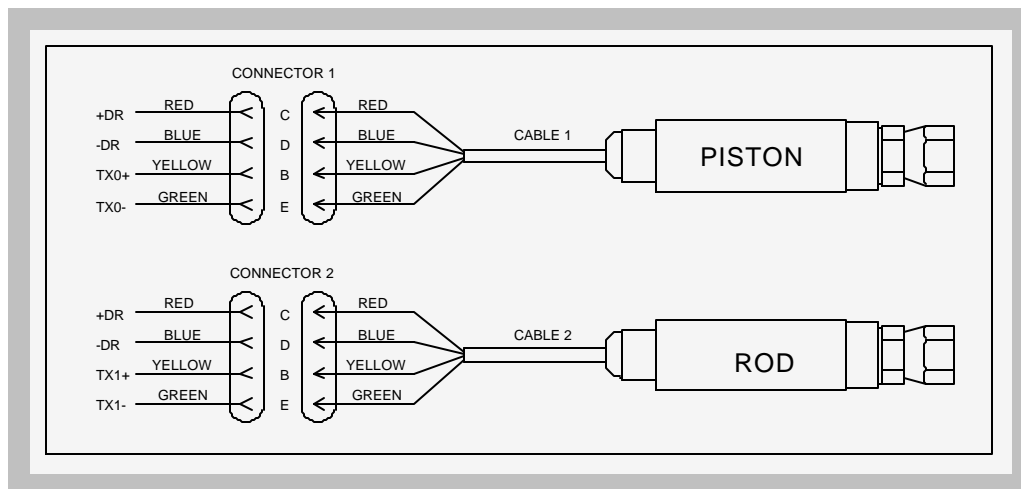

FIGURE 4.22 THE PRESSURE SENSOR CONNECTED TO THE COMPUTER
2. With the Digital Multimeter (DMM) set to the Ohms range, measure the resistance between pins “C” an “D” of connector MS3475W14-5PZ (see Figure 4.22). *The resistance should be ~~350W~~ 10W.*